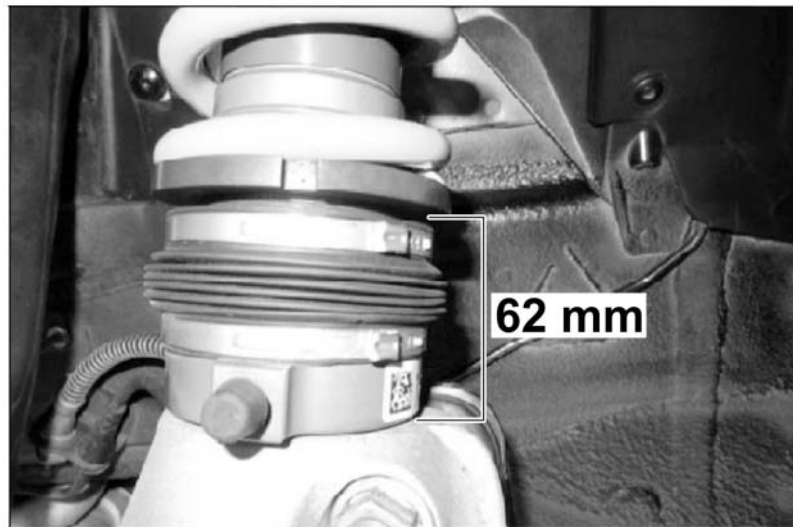

Figure 13
11. – Roughly set the wheel heights for wheel alignment. On the front axle, the height from the upper edge of the wheel carrier to the lower edge of the lower spring plate is set at 62 mm / 2.44 in \Rightarrow Figure 13. **If the chassis variant is installed without a lift system, this measurement is 55 mm / 2.165 in .** Finally, reconnect the lift system and screw the retaining bracket on tight.